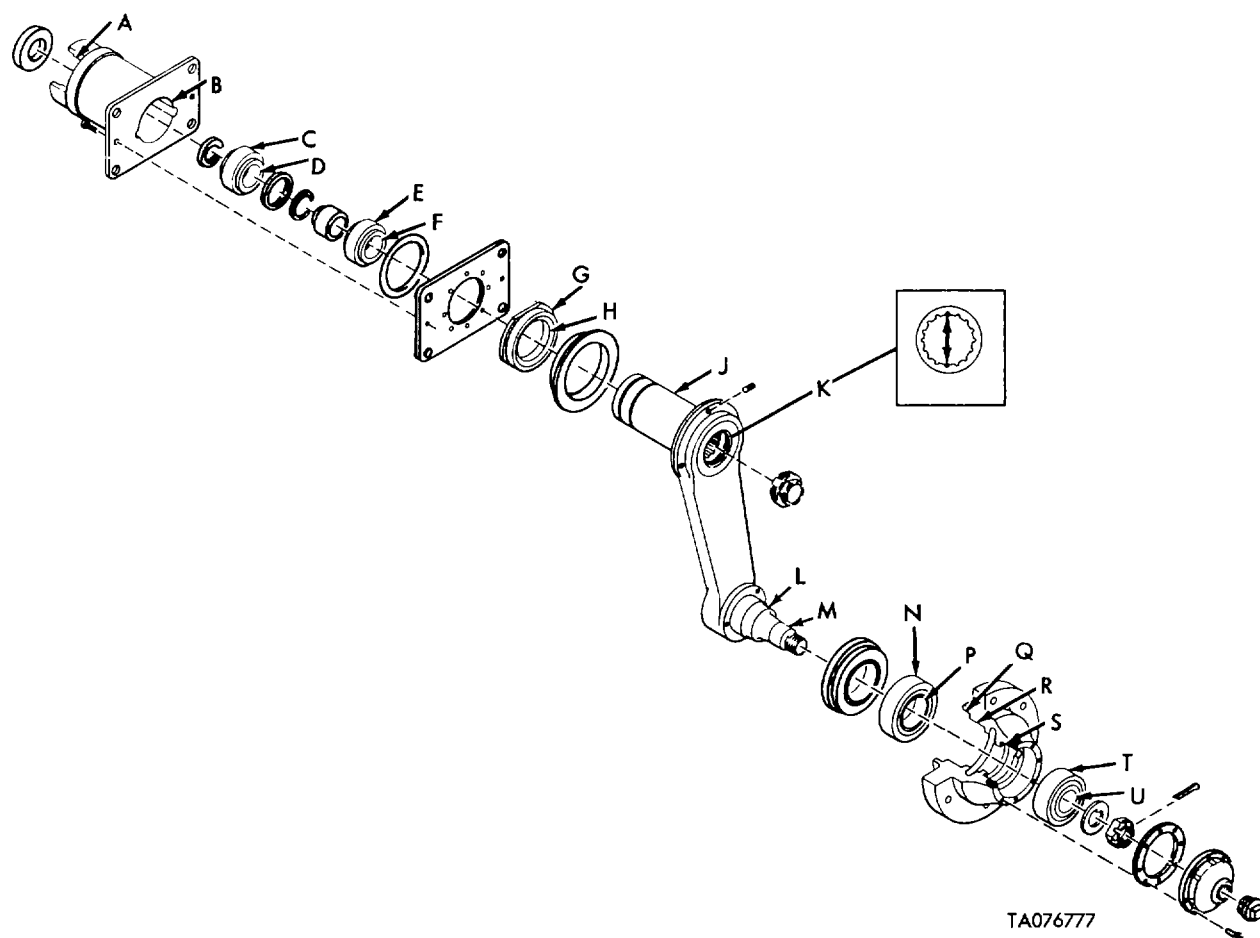

Figure 4-7. Axle and Hub Assembly Wear Limits (Sheet 1 of 2)
- f. Suspension System. This paragraph and figure 4-7 details repair and rebuild standards for suspension system components. Included are points of measurements, sizes and fits of new parts, wear limits for field and depot, and code symbols for coordinate information. The letter L indicates a loose or clearance fit between parts. The letter T indicates a tight or interference fit between parts. A double asterisk (**) indicates that the part may be used for selective fitting as long as the mating part permits the fit required between the two. All dimensions are in inches.